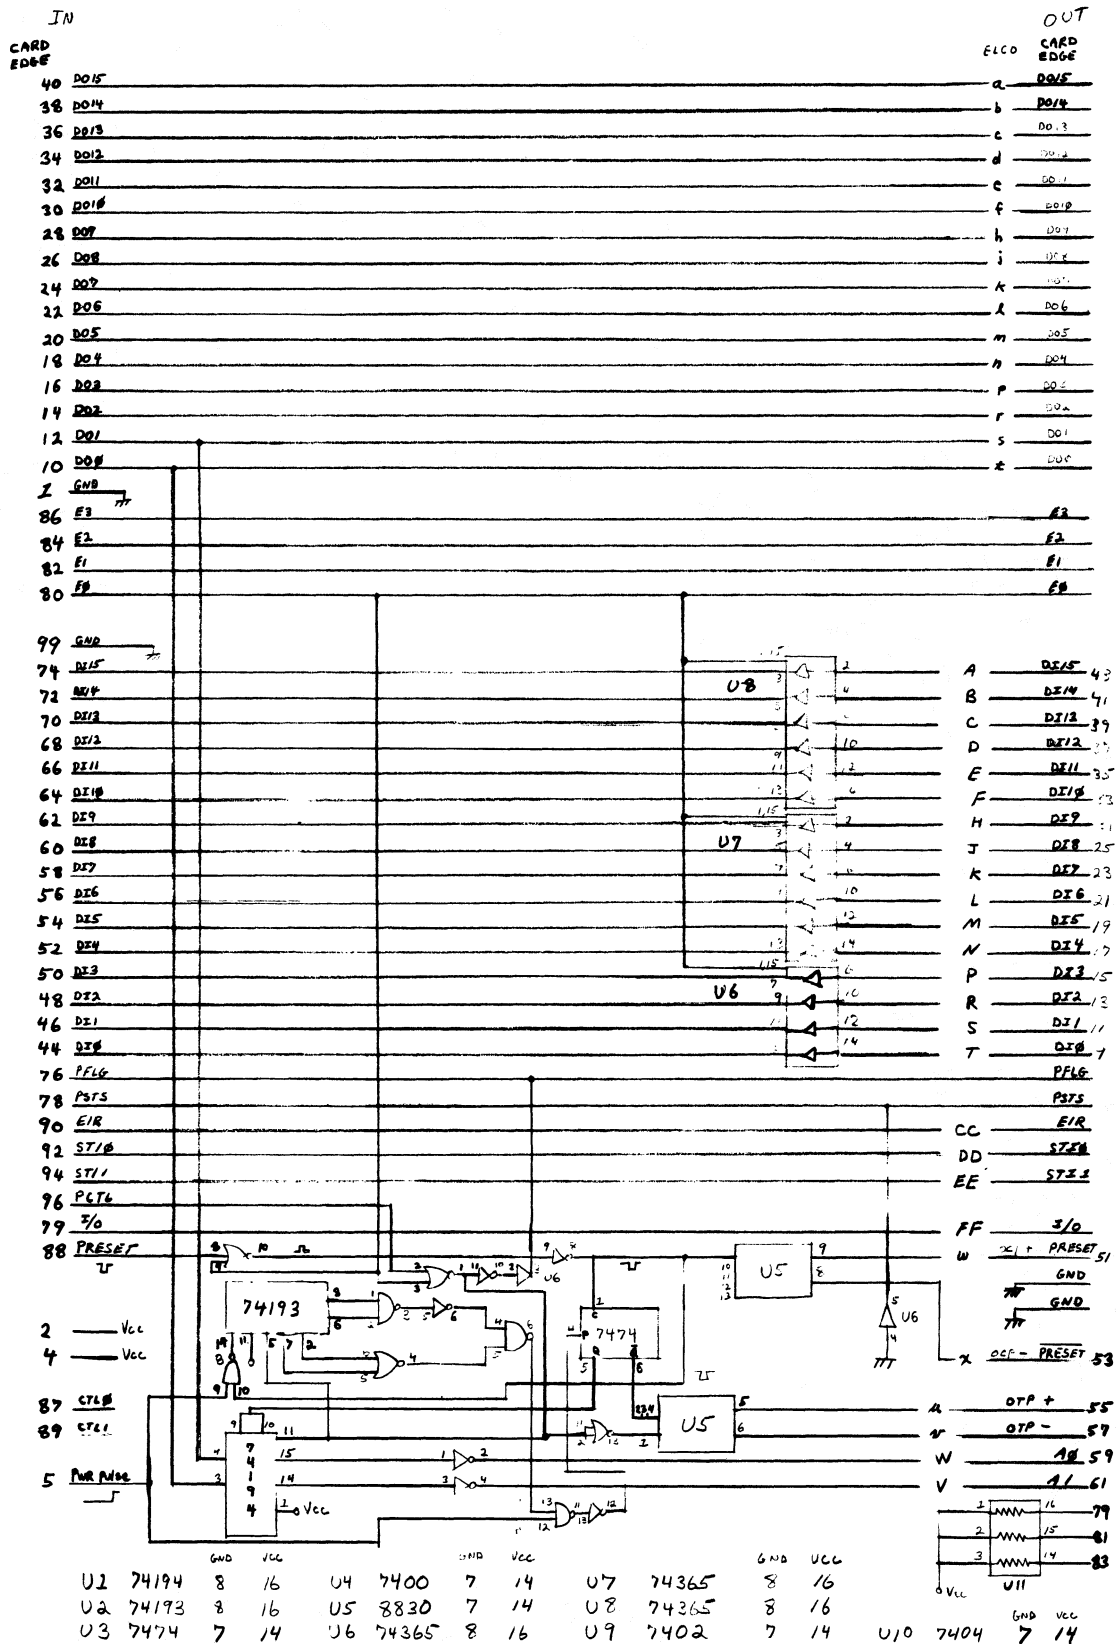

Figure 5
The schematic diagram for the ULO deocde circuit is shown in Figure 5. Table 2 contains the parts list. The data in (DI) lines are buffered by Tri-State enable buffers U8, U7 and U6. The "DO" line bits \emptyset and 1 are latched by U1 and inverted by U10 to provide the address to the ULO system. The words sent to the ULO are counted by the binary counter U2. Control of the address latch is done by flip-flop U3. This flip-flop allows either clocking of the latch or counting of the words. Operation of this system is described later. The power-up pulse is used to zero the counter and preset the flip-flop. The PCTL and PRESET lines from the GPIO are buffered by line drivers U5 to reduce any noise related problems in the line between the interface and the ULO. Resistor bank U11 provides pull-ups for the hard wired part of the address line. PFLG is generated by the PCTL pulse for handshaking with the computer.